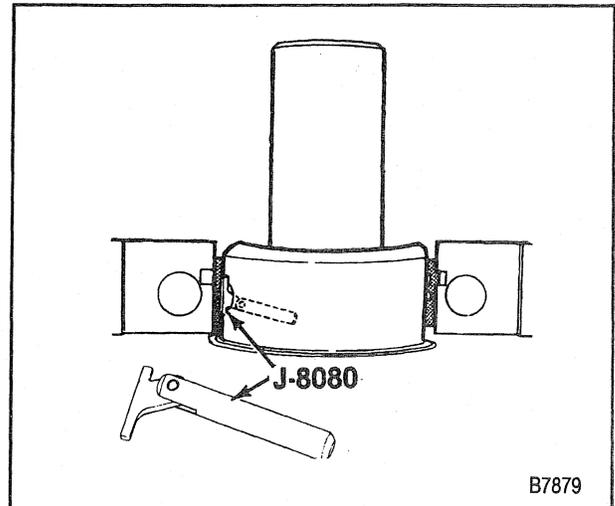

Figure 32—Removing the Main Bearings
←→ Remove or Disconnect (Figure 32)
- A. Insert tool J 8080 into the crankshaft oil hole (figure 32).
→← Install or Connect (Figures 32 and 33)
- A. Insert tool J 8080 into a crankshaft main bearing oil hole (figure 32).